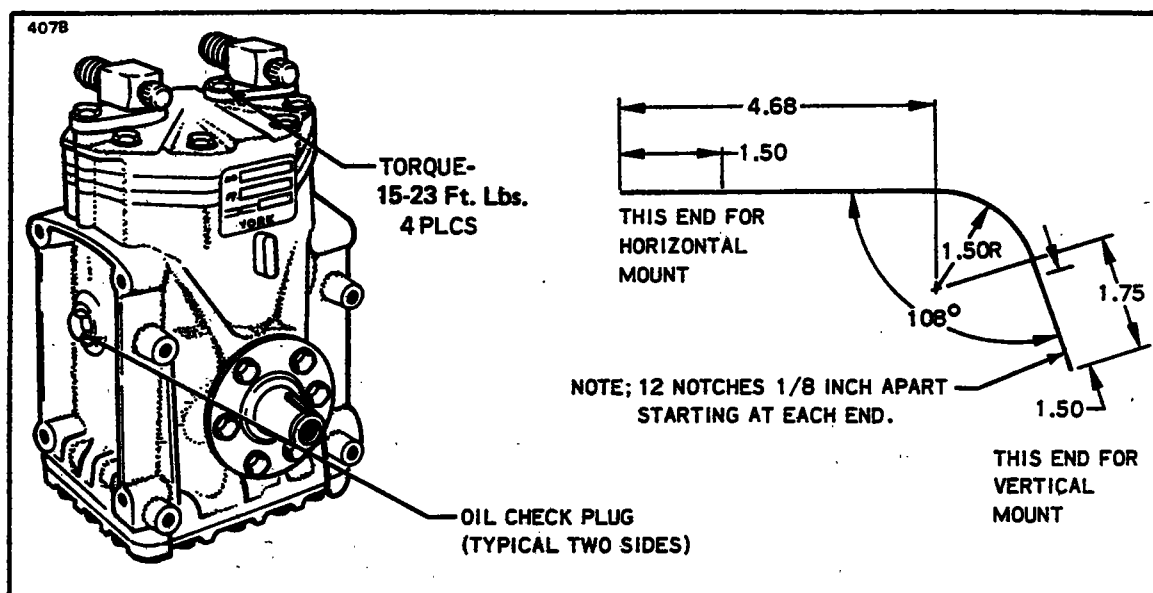

Figure 14-9. Compressor And Fabricated Oil Dipstick
- b. Fabricate an oil dipstick. (Refer to Figure 14-9.)
- d. Before inserting the dipstick, the crankshaft Woodruff key should be located in the up position. (The front face of the compressor clutch is marked with a stamped "K" indicating the key position). The oil level should be measured from the lowest point in the crankcase. Use the long end of the dipstick. (See Figure 14-9.)